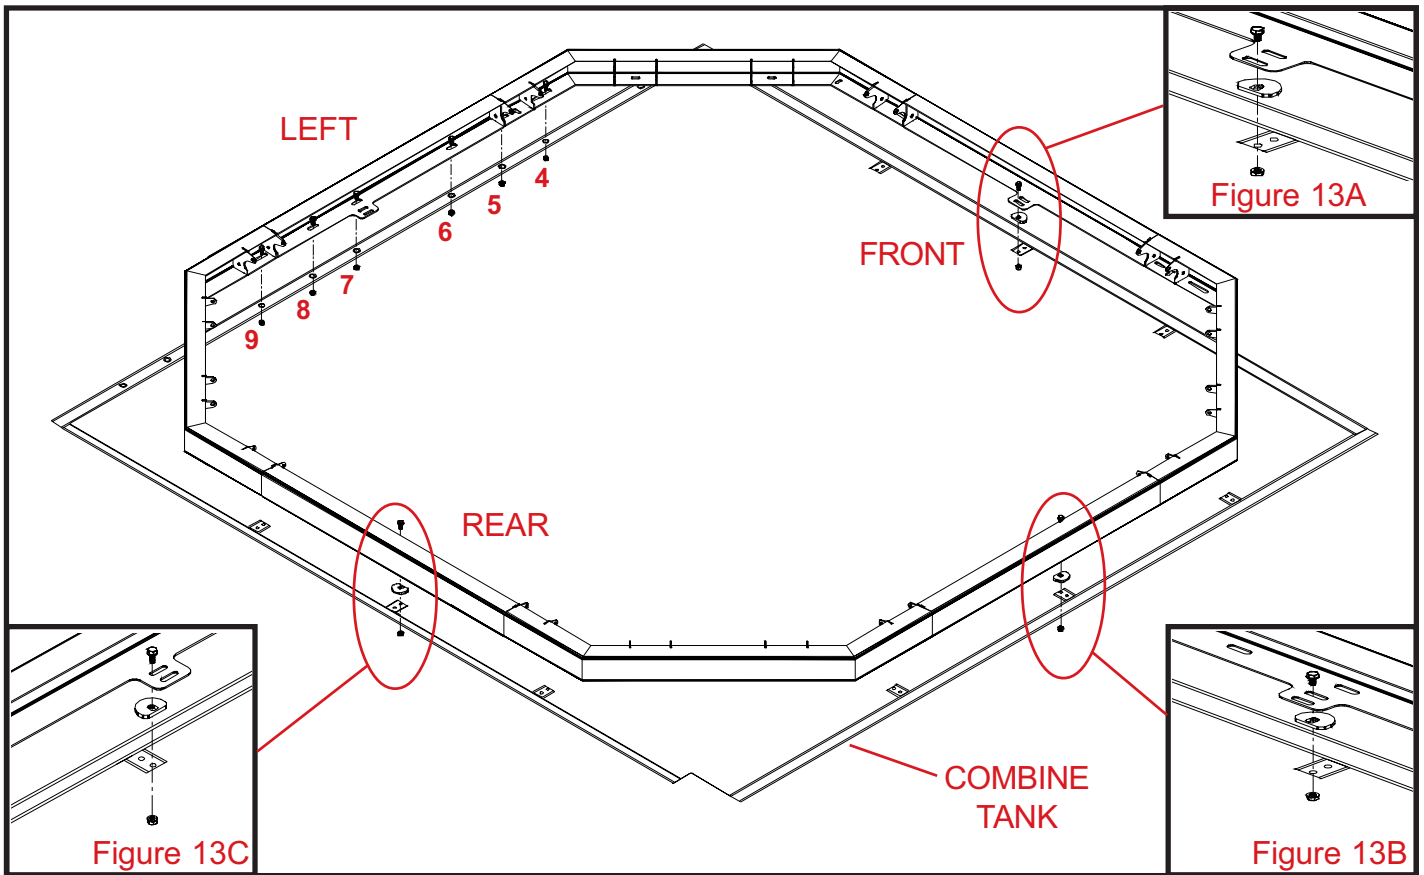

Figure 13
Remove all of the Deere factory installed vertical tip-up boards from the top of the S550 combine. Then on the left side of the combine tank you will notice (11) bolt heads. Using a ratchet with 15mm socket and 15mm wrench, remove and save bolts 4-9 as shown in figure 13. The bolts removed will be used later to fasten the Maurer bin extension to the combine tank.
Using the top holes of the existing front, rear, and right side tank brackets. Slide the provided frame spacers between the bin extension frame and the existing tank bracket. Bolt through the frame, spacer, and tank bracket with 5/16" x 1" serrated flange bolt and 5/16" serrated flange nut. We recommend that the tasks explained in this step be preformed where areas are circled in Figure 13. See figures 13A, 13B, and 13C for exact details.